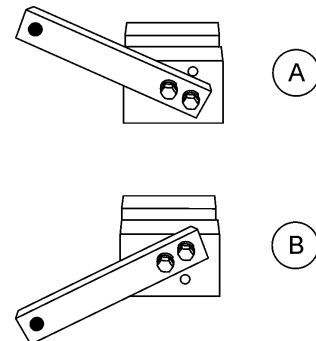

Figure 45. Trowel Arm Adjustment Setup
2. Ensure the fixture arm is in the proper setting (up or down) for your trowel arm rotation as shown in Figure 45.
Arms with CLOCK-WISE blade rotation use the fixture arm in the UP position (A in Figure 45). Arms with COUNTER CLOCK-WISE blade rotation use the fixture with the fixture arm in the DOWN position. (B in Figure 45).